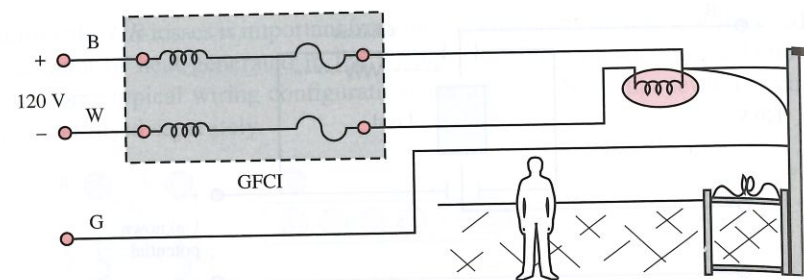

Figure 7.64 Use of a GFCI in a potentially hazardous setting
fence can be considered as forming a chassis. If the fence were not properly grounded all the way around the pool and if the light fixture were poorly insulated from the pole, a path to ground could easily be created by an unaware swimmer reaching, say, for the metal gate. A GFCI provides protection from potentially lethal ground loops, such as this one, by sensing both the hot-wire (B) and the neutral (W) currents. If the difference between the hot-wire current I_B and the neutral current I_W is more than a few milliamperes, then the GFCI disconnects the circuit nearly instantaneously. Any significant difference between the hot and neutral (return-path) currents means that a second path to ground has been created (by the unfortunate swimmer, in this example) and a potentially dangerous condition has arisen. Figure 7.64 illustrates the idea. GFCIs are typically resettable circuit breakers, so that one does not need to replace a fuse every time the GFCI circuit is enabled.